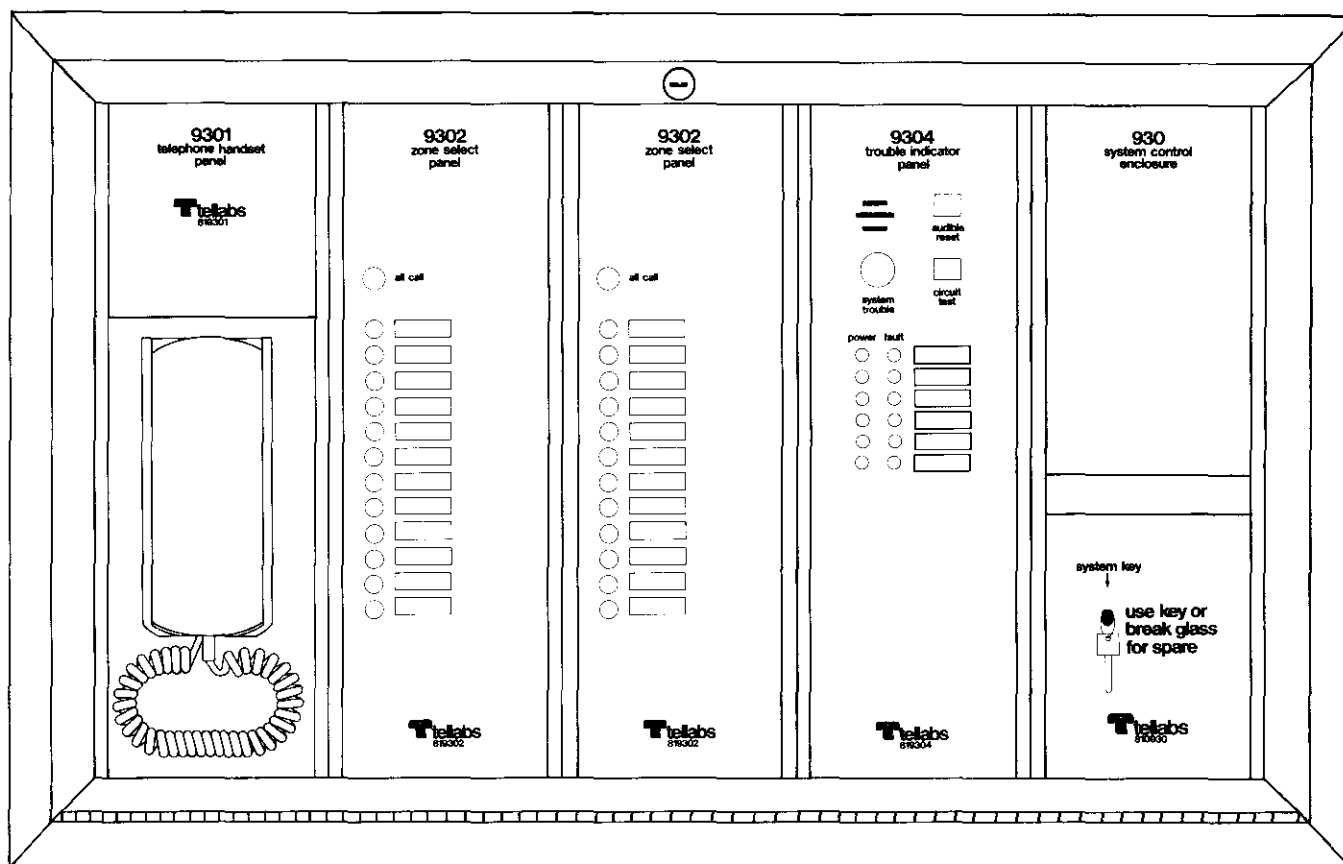

figure 7. 930 System Control Enclosure (shown with a second 9302 panel, which is optional)
2.33 The 930 System Control Enclosure (see figure 7) provides activation control for the 294 System in the event of an emergency or for routine testing. This wall-mounted panel features a key lock to ensure controlled access to the activation controls. However, this panel also allows emergency access via a key obtained by breaking the small glass cover in the lower right corner. The System Control Enclosure is made up of the following sections: